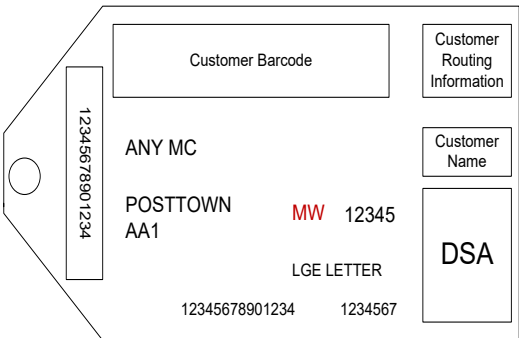

Figure 30: Mixed Weight bag label
- 3.1 You must include an additional identifier (**MW**) on the Container CFL (see Figure 30), so that the Inward Mail Centre can identify the Posting is Mixed Weight.
5.2 You must declare on the Manifest the total number of Large Letters by weight band (see Figure 30).